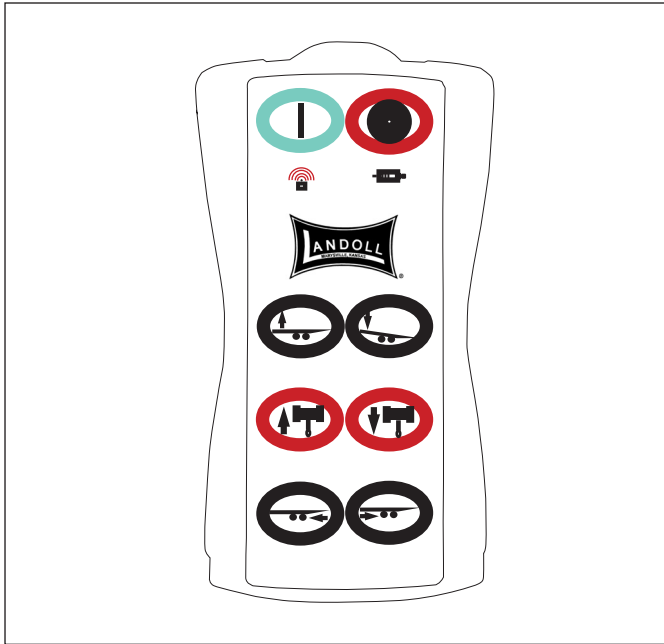

Figure 3-14: Remote Control Receiver
1. A wireless six function radio remote control is available (*See Figure 3-14.*)